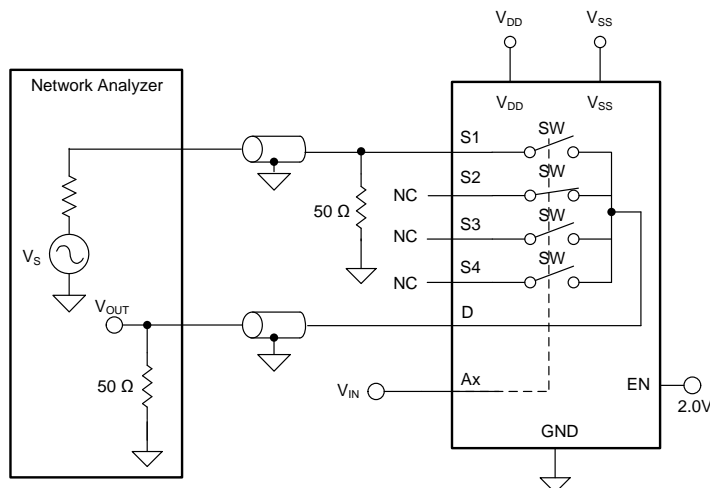

Figure 24. Off Isolation Measurement Setup
Off isolation is defined as the voltage at the drain pin (D) of the TMUX6104 when a 1-V_{RMS} signal is applied to the source pin (Sx) of an off-channel. Figure 24 shows the setup used to measure off isolation. Use Equation 2 to compute off isolation.